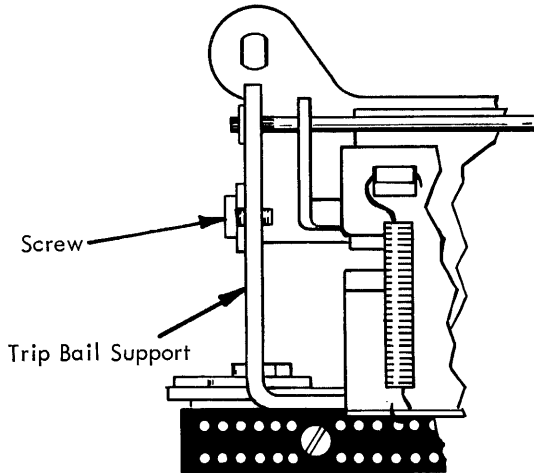

FIGURE 34.4 Trip Bail
- b. Loosen screw (Fig. 34.4).
- e. Tighten screw in Fig. 34.4.